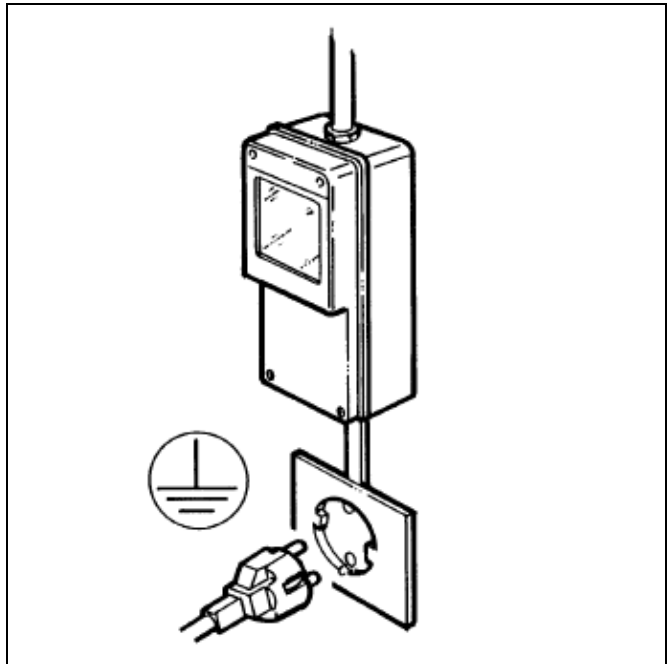

Fig. 25
- Make sure the connection is made to a system with an effective earth as required by current safety standards (fig. 25). The manufacturer cannot be held responsible for any damage caused by failure to earth the system.
- It is essential, for proper and safe installation, to provide a socket controlled by a circuit breaker with contact opening distance equal to or greater than 3 mm, in accordance with applicable national safety regulations (fig. 25).